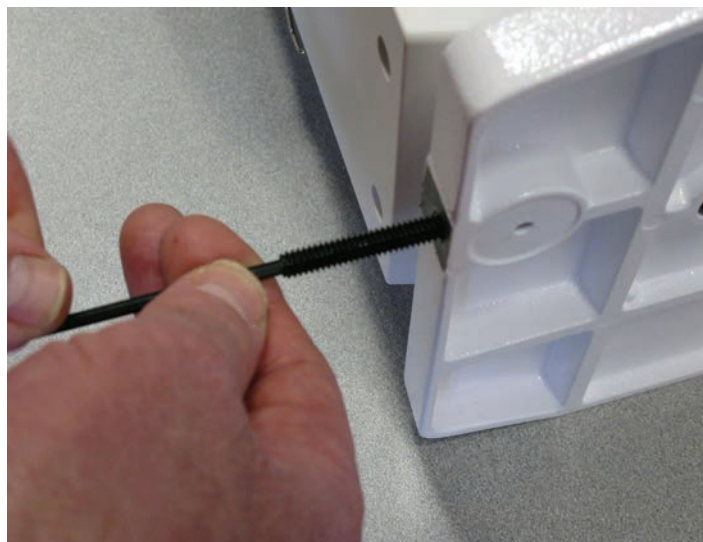

Figure 5
**Step 3:** Use the provided 3mm hex key to rotate the 2" screw into the machine base plate 11 or 12 revolutions (**Figure 5**).